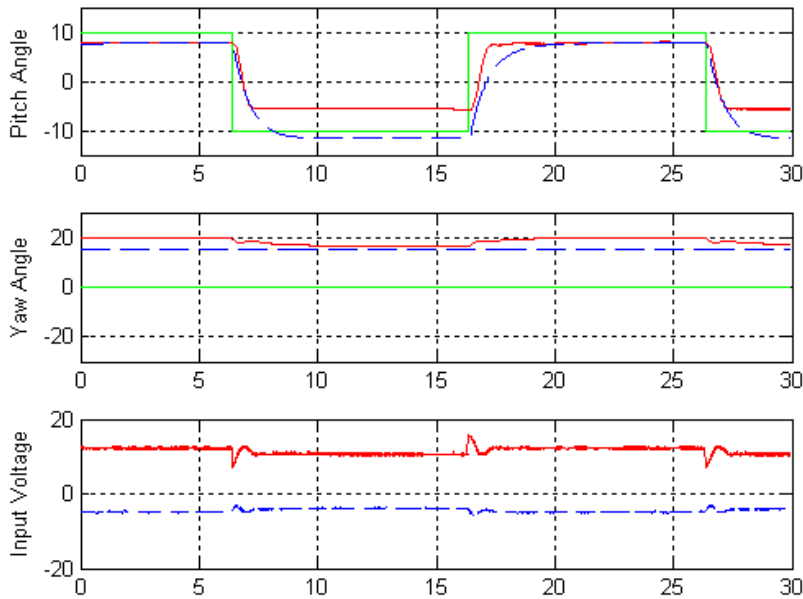

Figure 36: Closed-loop LQR response under pitch reference step.
5. Open the *2-DOF HELI* subsystem shown in Figure 36. It contains the QuaRC blocks that interface with the hardware of the actual plant. The Analog Output block outputs the voltage computed by the controller to the DACB and the Encoder Input block reads the encoder measurements.
13. Open the *theta (deg)*, *psi (deg)*, and *Vm_actual (V)* scopes in the *Scopes* folder. In the *theta (deg)* scope, the desired pitch position is the yellow line, the measured pitch position is the purple plot, and the simulated pitch position is light blue trace. Similarly in the yaw scope, *psi (deg)*, yellow is the desired yaw, purple is the measured yaw, and light blue is the simulated yaw. The *Vm_actual (V)* scope plots the voltage being applied to the pitch motor in yellow and yaw motor in purple.
14. Figure 36 depicts the typical measured and simulated pitch and yaw response under a desired step pitch angle. The measured response is the solid red line (-), the simulation is the dashed blue line (--), and the reference is the solid green line (-). Notice in both the measured and simulated responses the pitch angle has a steady-state error.